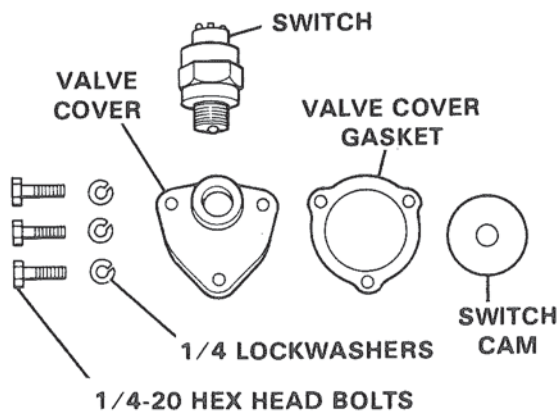
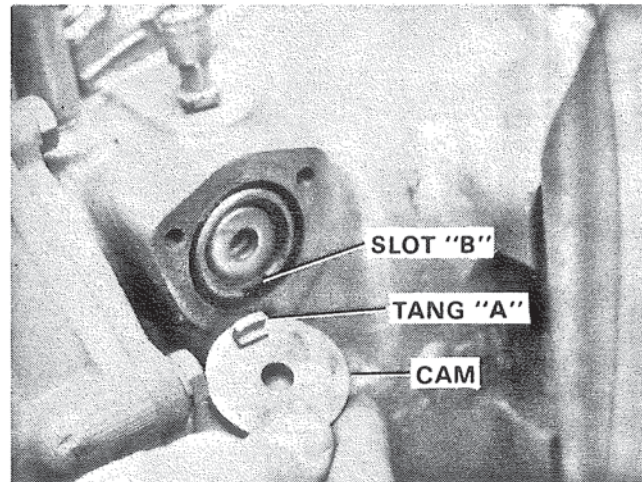

Figure 95. Neutral Switch Kit.
Figure 96. Neutral Switch Assembly.
2. Shift control lever into neutral position. Assemble gasket provided in neutral switch kit. Figure 95. Assemble neutral switch cam, making sure to align tang "A" on cam with slot "B" in valve. Figure 96.